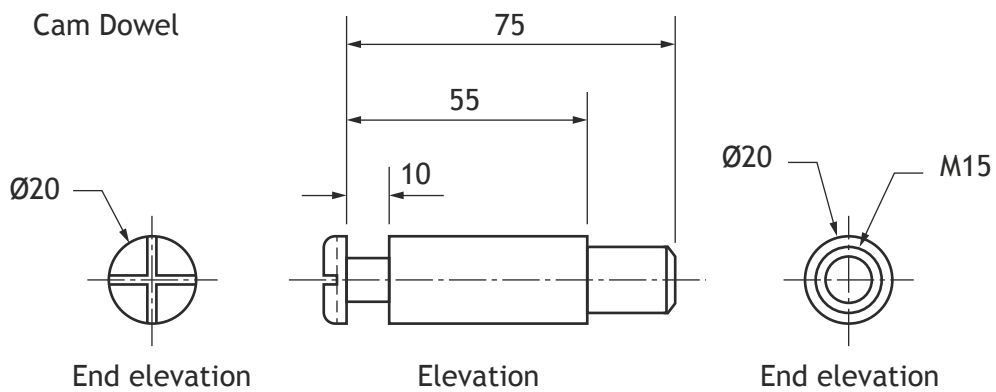

Figure 3
- (g) State the type of linear dimensioning used in the elevation view of the Cam Dowel in Figure 3. 1